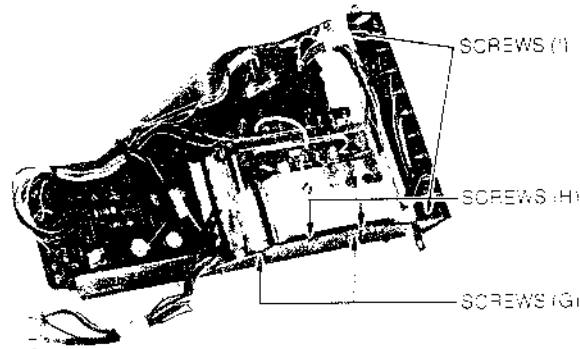

Figure 5.
3-5. VHF/UHF TUNER REMOVAL (See figure 5)
3-6. KEY BOARD REMOVAL (See figure 5)
1. Detach the CRT ground lead from CRT SOCKET BOARD (See figure 5).